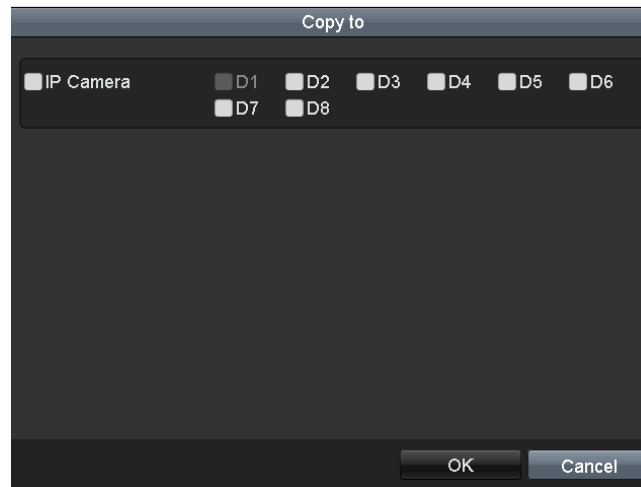

Figure 2. 10 Copy Record Settings
13. Click **Copy** to copy the settings to other channels, as shown in Figure 2. 10.